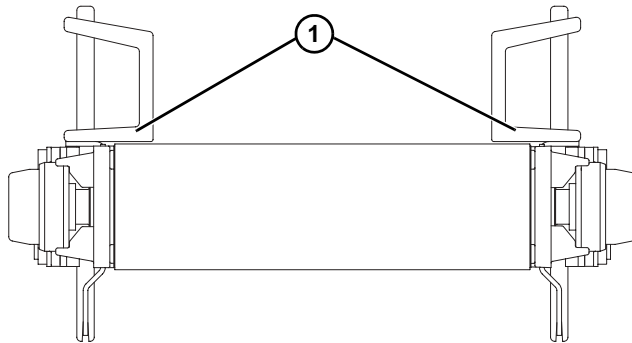

Figure 37
For UHMW guides, install guides with horizontal side (Figure 37, item 1) down.